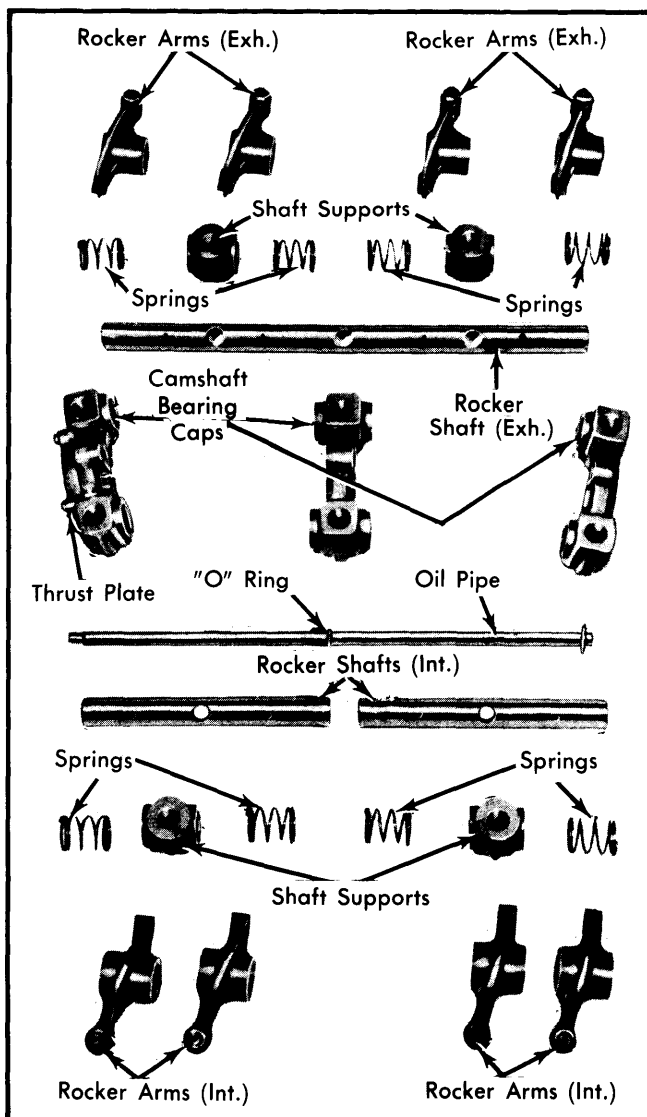

Fig. 6 Exploded View of Rocker Arm & Shaft Assembly
4) Remove valve cover. Remove distributor with plug wires. Remove timing chain tensioner cover (Fig. 6) and release chain tension. Refer to *Timing Chain Tension* in this article.